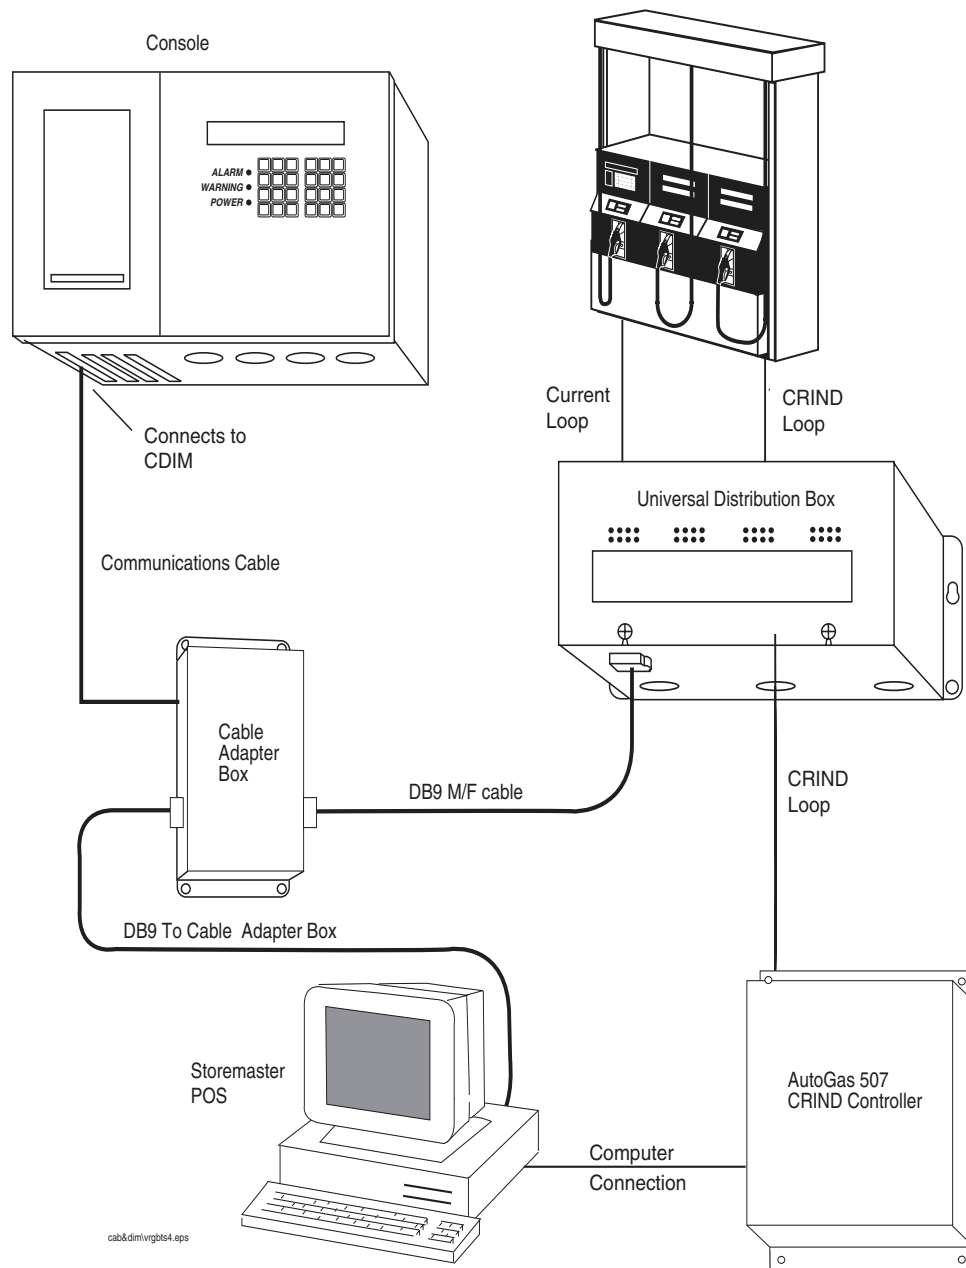

Figure 10. AutoGas 507 CRIND Controller
1. Locate Distribution Box as seen in Figure 10 on page 23.